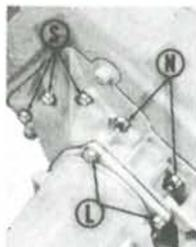
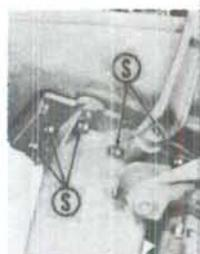

Fig. OM4-8—On 5 hp models, the power head is attached to the adaptor housing with three cap screws (S) and four nuts (N). Two of the screws are on other side.
Fig. OM4-9—On 6 hp models, the power head is attached to lower unit with seven cap screws (S). Two of the screws are on other side.
R&R AND DISASSEMBLE. To overhaul the power head, clamp the motor on a stand, remove the upper motor cover and disconnect choke control. Remove the starter assembly as outlined in the STARTER section. On 5 hp models, disconnect the link connecting speed control lever to armature plate and remove cap screws (S—Fig. OM4-8) and nuts (N). On 6 hp models, disconnect armature link from speed control shaft (22—Fig. OM4-11), remove clamp from upper end of shaft and lift shaft (22) and pin (23) out of lower cover. Remove the seven cap screws (S—Fig. OM4-9) attaching power head to exhaust housing. On all models, lift power head straight up off of lower unit.